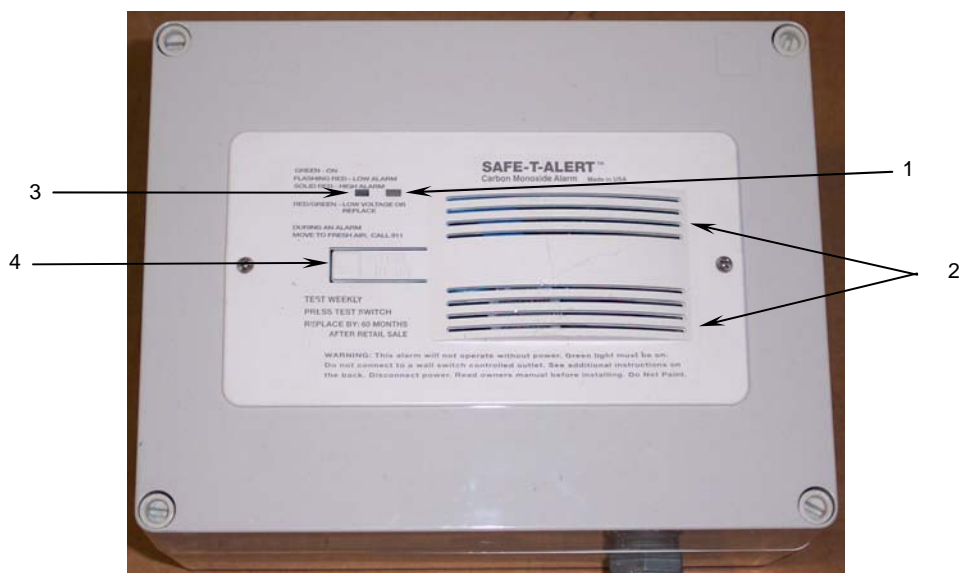

Figure 3. CO Monitor.
The CO monitor in Figure 3 is hung from the “Y” pole of the tent and is plugged into one of the four outlets on the 100-ft extension cord. An internal power supply converts the 120 VAC source power to 12 VDC. When the CO monitor power cord is plugged into an energized power source, the indicator light (**Figure 3, Item 1**) flashes green on and off during a 10-minute warm-up period while the CO sensor element (**Figure 3, Item 1**) self-cleans. After the warm-up period, the green power ON light glows continuously.
- Indicator light Flashes red (**Figure 3, Item 1**) and four audible beeps from the alarm (**Figure 3, Item 3**)
- Cycle continues until TEST/RESET button (**Figure 3, Item 4**) is pressed